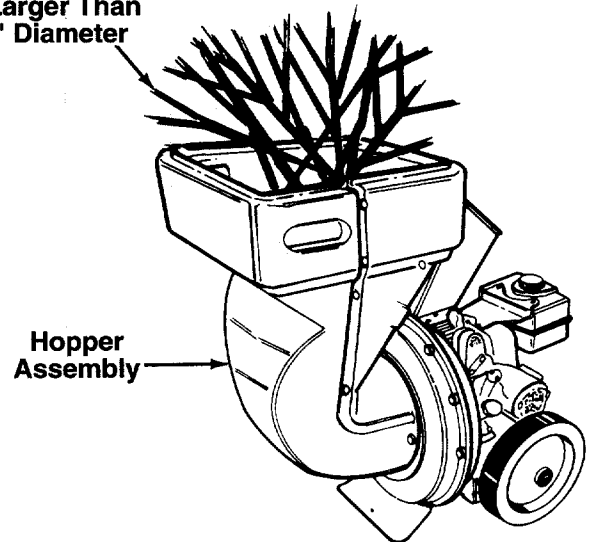

FIGURE 4.
- Leaves and small branches up to 1/2" diameter can be fed into the hopper assembly. See figure 4. If it becomes necessary to push material into the shredder, use a small diameter stick—NOT YOUR HANDS. The stick cannot exceed 1/2" in diameter so it will be ground up if it gets into the impeller assembly.